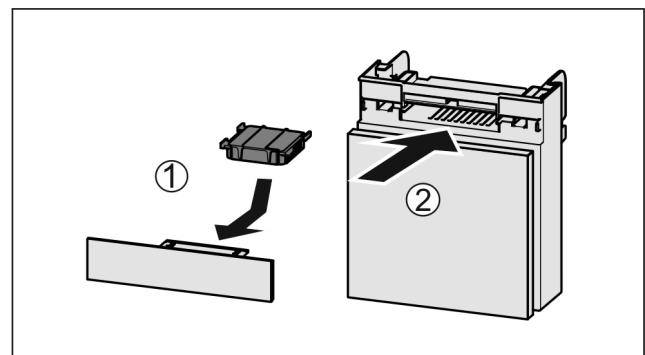

Fig. 96
- ▶ Insert the carbon filter as shown in the diagram Fig. 96 (1).
▶ Push the compartment in Fig. 96 (2).